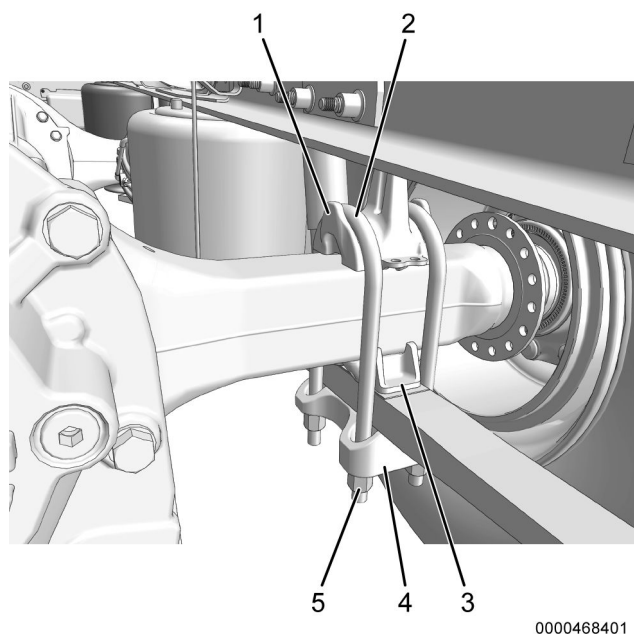

Figure 1. Replace Axle Seats
5. Starting at the right forward rear axle, remove U-bolt nuts (Figure 1, Item 5) from U-bolts (Figure 1, Item 2). Remove U-bolts and lower axle seat (Figure 1, Item 4). Discard U-bolts, nuts, washers, and seat.
6. Using a suitable jack, raise axle from plate (Figure 1, Item 3). Remove and discard plate.
7. Install correct new plate (Figure 1, Item 3) and lower axle back into position.
8. Install new U-bolts (Figure 1, Item 5), correct lower axle seat, washers, and nuts.